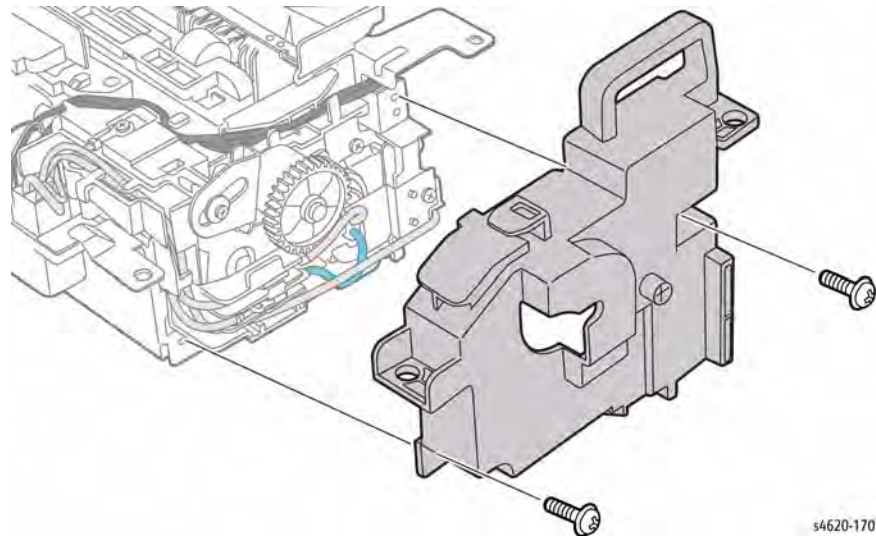

Figure 7 Remove the Fuser left cover
9. Remove 2 screws (silver, metal) that secure the Fuser left cover, Figure 7